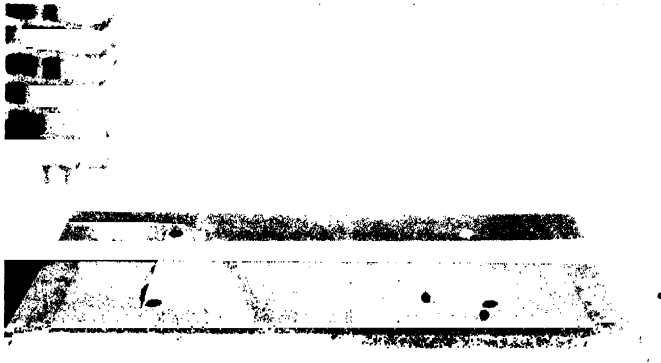
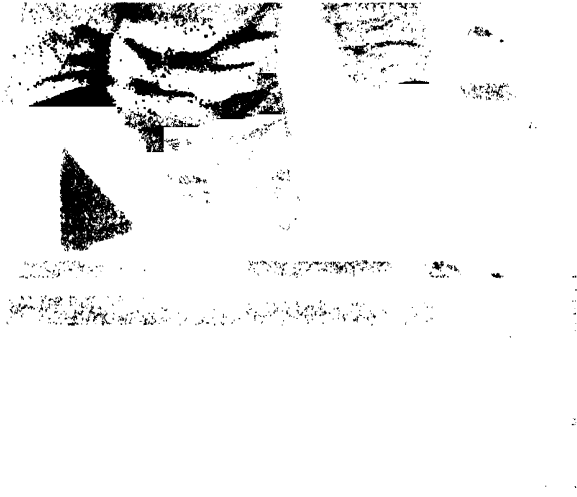

Fig. 5.
Fig. 6.
**Drawing-board.**—A convenient size of board is 20 inches long and 16 inches wide. It should be well constructed, so that it will not warp in the hot weather. The paper is attached to the Drawing-board by four *drawing-pins*, as shown in Fig. 5.
**T-square.** --This is used with the Drawing-board, as shown in Fig. 5. The T-square is moved up and down the Drawing-board by sliding the cross piece (called the *Stock*) against the left-hand edge of the Drawing-board. There must be complete contact between the stock and the edge of the board. The best way to keep the T-square in position when a line is being drawn is shown in Fig. 6.